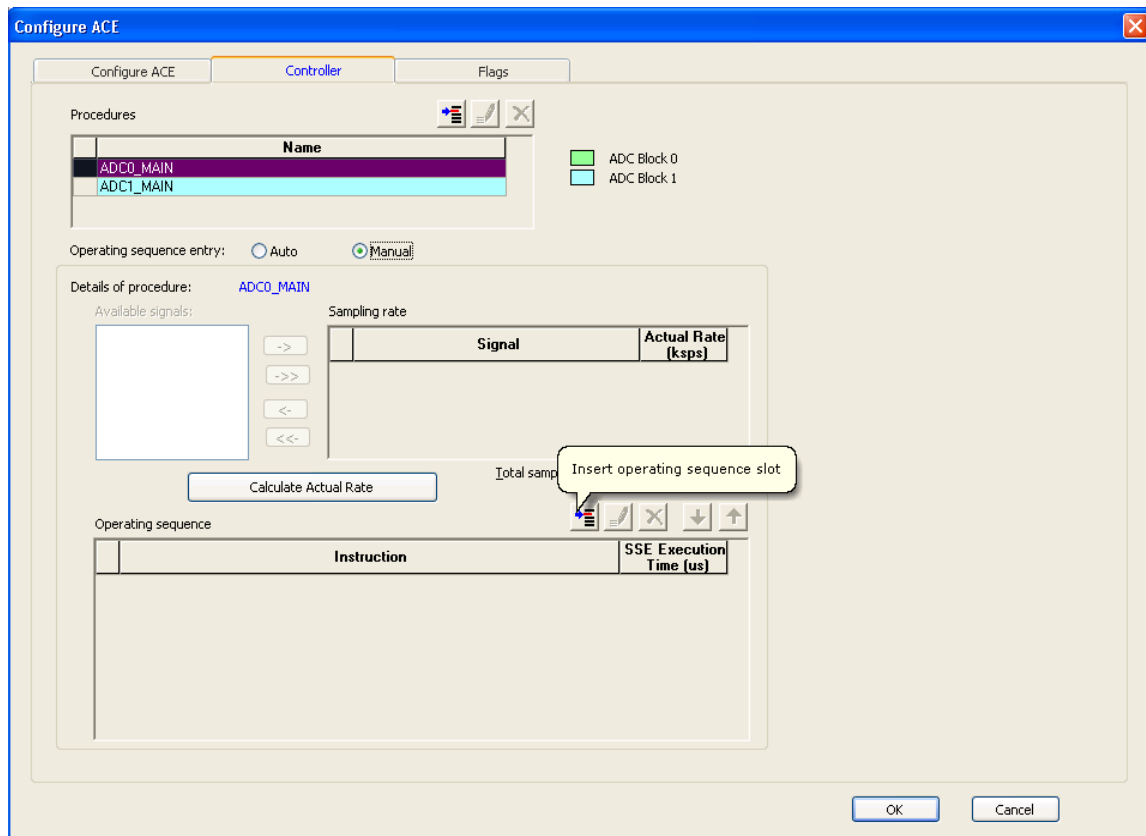

Figure 11 · MSS ACE Configuration to Enable Sampling Sequence
8. Click **Insert operating sequence slot** as shown in Figure 11 . .